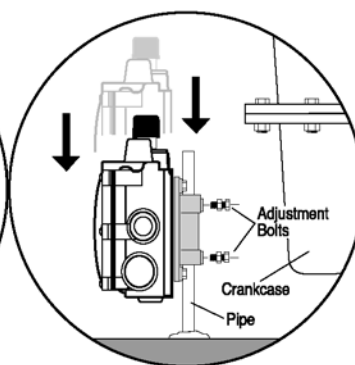

Figure 2B
3. Slip the LM500 onto the pipe and install the two adjustment bolts. Each bolt consists of a 1/4-20 UNC x 1 in. bolt, nuts and lock washers. See Figure 2B. **DO NOT** tighten the adjustment screws too tight as height adjustment might be needed later during the operation. Refer to “Connecting Fittings and Hoses”, for more information regarding height adjustment of the LM500 in alignment with the oil level in the crankcase.